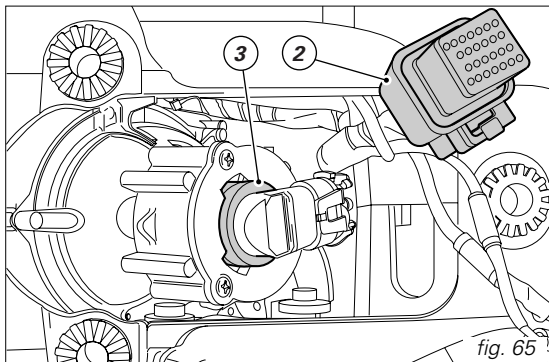

fig. 65
Remove headlight fairing (see page 54), detach instrument panel connector (2, fig. 65) from wiring and put your hand into the headlamp support to grasp the parking light bulb (1).